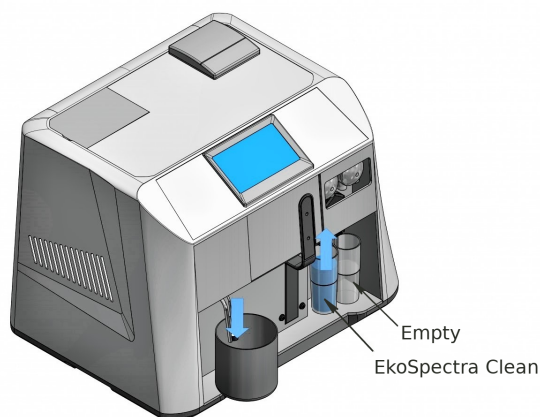

Figure 7: Clean IR with EkoSpectra Clean solution
- after procedure finished, remove the mug with EkoZero solution and put another cleaning solution mug filled with EkoSpectra Clean solution (figure 7).